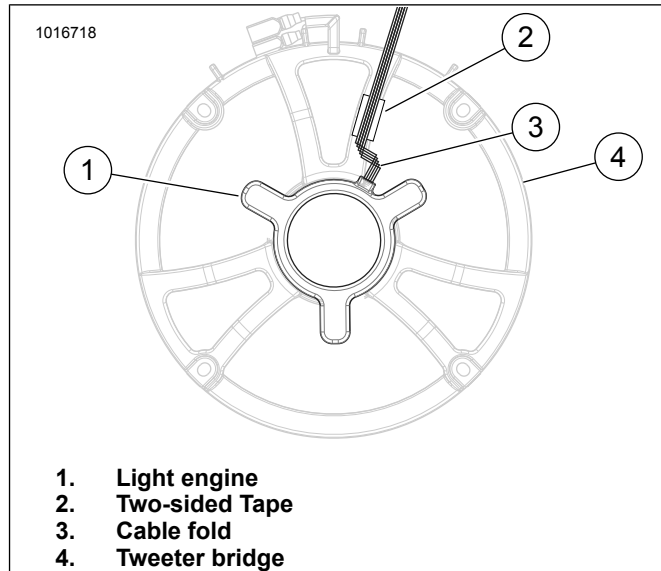

Figure 3. Cable Routing, Frame-Mounted Fairing Models
6. See Figure 3. Route cable and fold (3) along tweeter bridge (4) leg. Using the tape in kit, cut to length and secure cable to tweeter bridge.